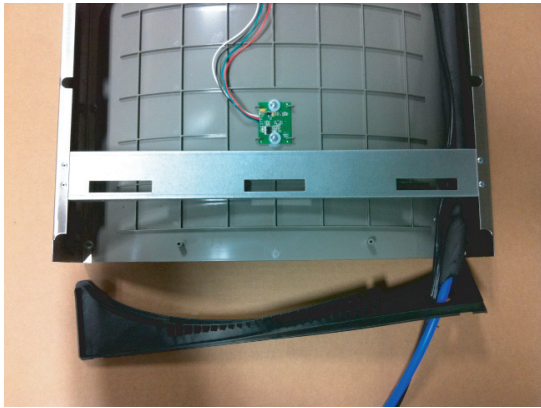

Figure 3
5. Feed the modular (C-13) end of International Power Cord and 3/8" (9.5mm) water line through hole in tower/basin gasket. See Figure 3.